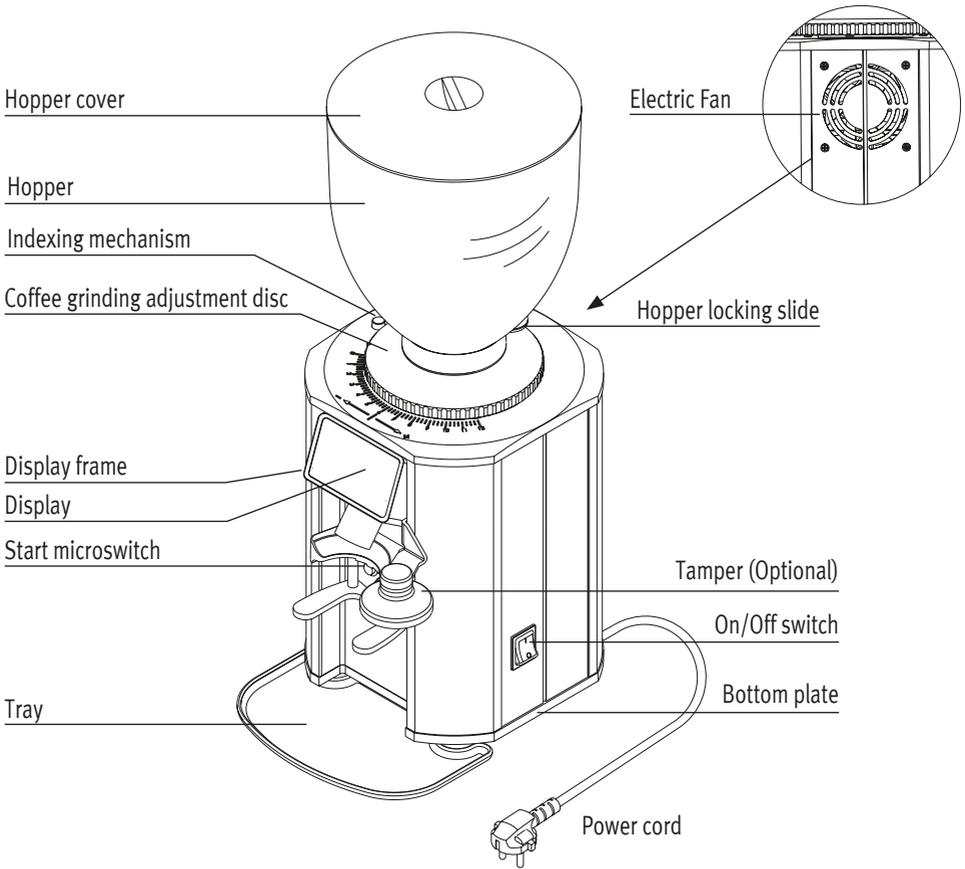

Figure. 1
Check that the hopper is positioned correctly on the appliance. Close the Hopper locking slide (**Fig. 1**) and fill the hopper with coffee beans. Open the slide to allow the coffee beans to fall in the grinding chamber.
Use the **Adjustment disc** located under the hopper (**Fig. 1**), for obtaining a finer or coarser grinding result.
The Adjustment disc is functional only when the Indexing mechanism (Fig. 1**) is hold down.**
The appliance's motor is protected against overheating by a thermal protection which, when tripped, cuts off the motor's power supply. If the protection trips as a result of anomalous operation, such as jamming the grinding burrs, the appliance must be turned off using the ON/OFF switch (*Fig. 1*), DISCONNECTED FROM THE MAINS AND CONTACT A LICENSED TECHNICIAN.
- Close the **Hopper locking slide** (*Fig. 1*).
- By keeping the **Indexing mechanism** pressed at all times, turn the **Coffee grinding adjustment disc** (*Fig. 1*) anti-clockwise until it is fully released.
- By keeping the **Indexing mechanism** pressed at all times, turn the **Coffee grinding adjustment disc** (*Fig. 1*) clockwise until it is tightly fastened.
- Check that the Coffee grinding adjustment disc indicator (*Fig. 1*) is close to O.
- By keeping the **Indexing mechanism** pressed, turn the **Coffee grinding adjustment disc** (*Fig. 1*) anti-clockwise, until its indicator is indexed to 1.
- Start the machine by pressing the  icon, **JUST ONCE**. If you hear the sound of metal scraping turn the **Coffee grinding adjustment disc** (*Fig. 1*) anti-clockwise until its indicator is indexed to 2.